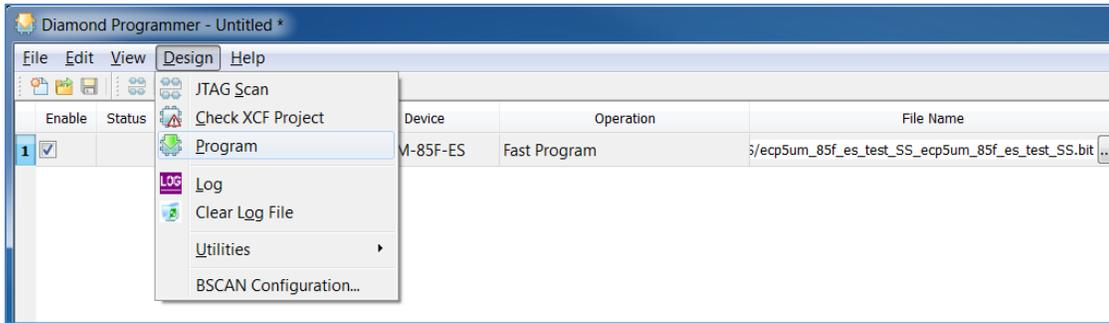

Figure 5.9. Design Menu
- On the menu bar, click **Design**, and on the dropdown menu, click **Program** as shown in Figure 5.9.